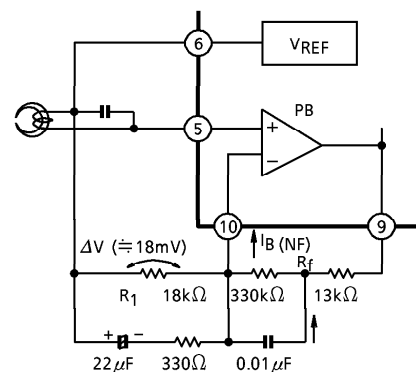

Fig.1 DC output voltage of playback amplifier.
In case that β of transistor is assumed 100, $I_B (NF)$ is flowed $0.2\mu A$ in Fig.1. And output voltage of playback amplifier (pin⑧, ⑨) in Fig.1 is